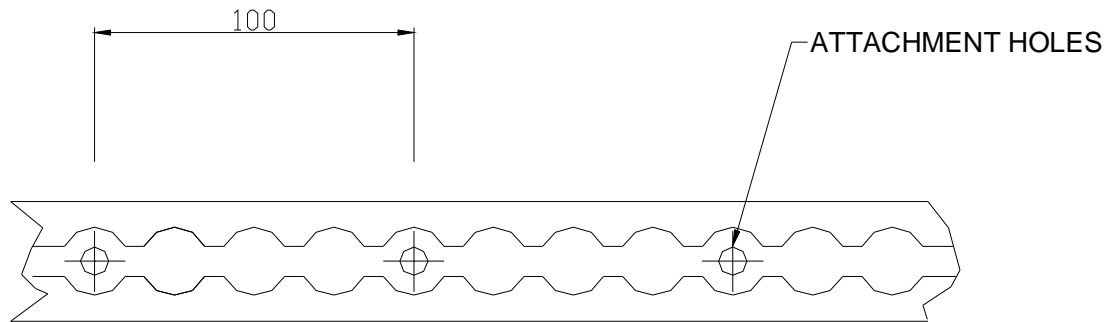

Figure 1 - Rail attachment intervals
2. The track must be mounted into the vehicle floor at 100 mm intervals along the rails as shown in figure 1.
7. All other applicable installation requirements from the LVV Seat and Seat Anchorage Standard 185-00(00) applies.